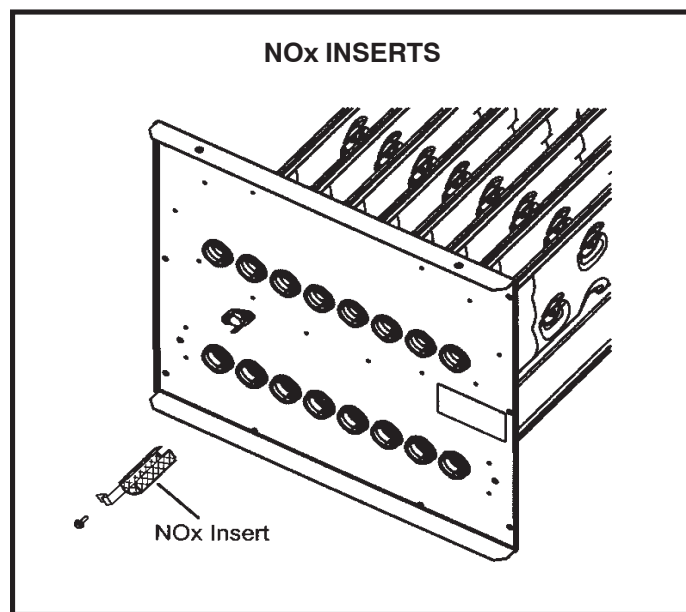

Figure 39
8. **NOX units only** - Remove screw securing NOX insert. Remove NOX insert. See Figure 39.